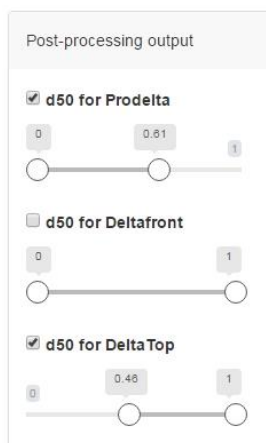

Figure 3.15 The output filters (only shown for D_{50}) *[needs to be updated with newest settings]*
- Median sediment grain size (D_{50}) filter (Figure 3.15) for all sub-environments (e.g. pro delta, delta front and delta top)